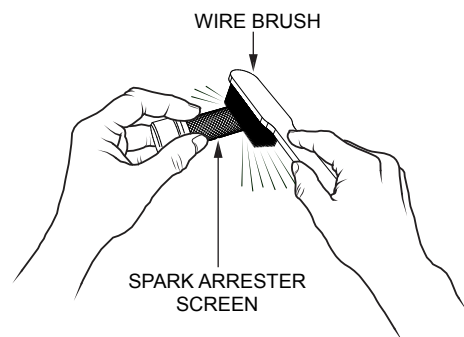

Figure 42. Cleaning the Spark Arrester
3. Carefully remove carbon deposits from the spark arrester screen (Figure 42) with a wire brush.